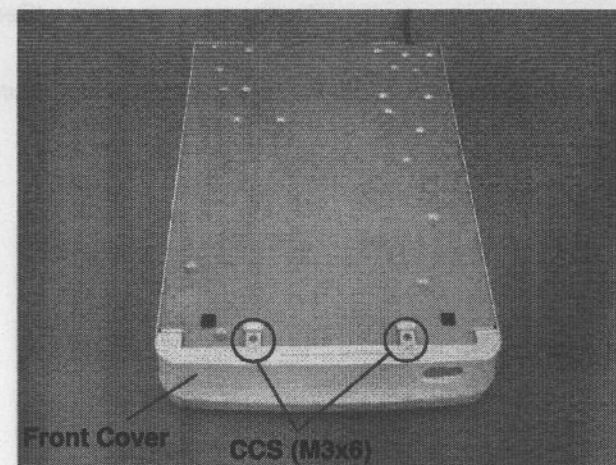

Figure 4-4. Front Cover Removal
3. Remove the two screws (CCS, M3x6) which are securing the front cover, and then remove the front cover. (See Figure 4-4.)